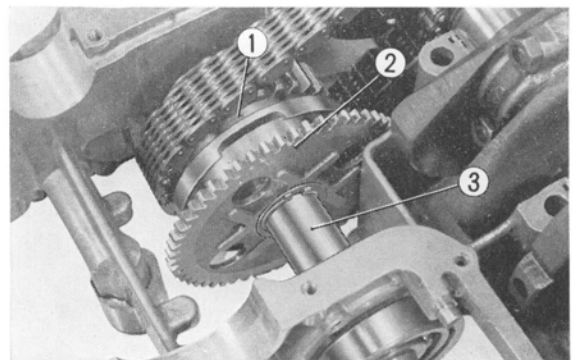

Fig. 151 ① Starting clutch
8. Unscrew ten 8 mm bolts and twelve 6 mm bolts from the lower crankcase. Loosen the 8 mm bolts in the reverse order shown in Fig. 151.
Cut a length of plasti gauge to the width of the bearing cap. Place the gauge on the bearing parallel to the crankshaft, assemble the crankshaft and torque down the crankcase in accordance with Fig. 151.
1. Remove the bearing, assemble and tighten the upper and lower crankcases. Refer to Fig. 151.
6. Place the engine upside down so as not to separate the parting surfaces by holding them by hands and install the ten 8 mm bolts. Torque the 8 mm bolts in the sequence shown in Fig. 151 to a torque of **2.3-2.5 kg-m. (16.63-18.08 lbs-ft)**.